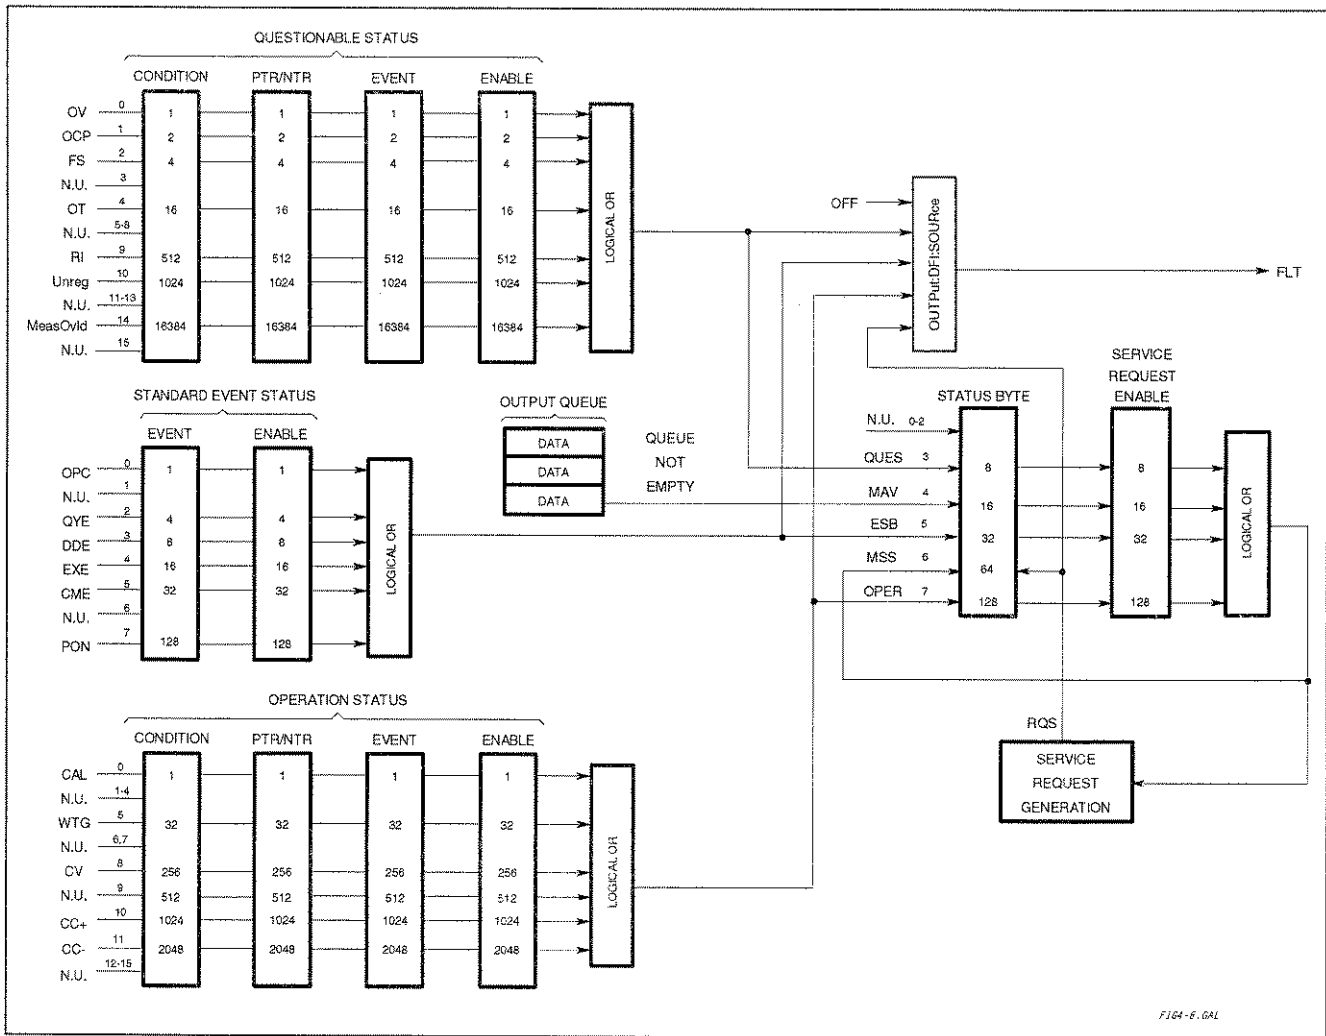

Figure 3-7. DC Source Status Model
Figure 3-7 shows the status register structure of the dc source. Table 3-1 defines the status bits. The Standard Event, Status Byte, and Service Request Enable registers and the Output Queue perform standard GPIB functions as defined in the *IEEE 488.2 Standard Digital Interface for Programmable Instrumentation*. The Operation Status and Questionable Status registers implement functions that are specific to the dc source.
The Questionable Status registers record signals that indicate abnormal operation of the dc source. As shown in figure 3-7, the group consists of the same type of registers as the Status Operation group. The outputs of the Questionable Status group are logically-ORed into the QUESTIONABLE summary bit (3) of the Status Byte register.
This group consists of an Event register and an Enable register that are programmed by Common commands. The Standard Event event register latches events relating to instrument communication status (see figure 3-7). It is a read-only register that is cleared when read. The Standard Event enable register functions similarly to the enable registers of the Operation and Questionable status groups.
This example assumes you want a service request generated whenever the dc source switches to the CC (constant current) operating mode, or whenever the dc source's overvoltage, overcurrent, or overtemperature circuits have tripped. From figure 3-7, note the required path for a condition at bit 10 (CC) of the Operation Status register to set bit 6 (RQS) of the Status Byte register. Also note the required path for Questionable Status conditions at bits 0, 1, and 4 to generate a service request (RQS) at the Status Byte register. The required register programming is as follows: